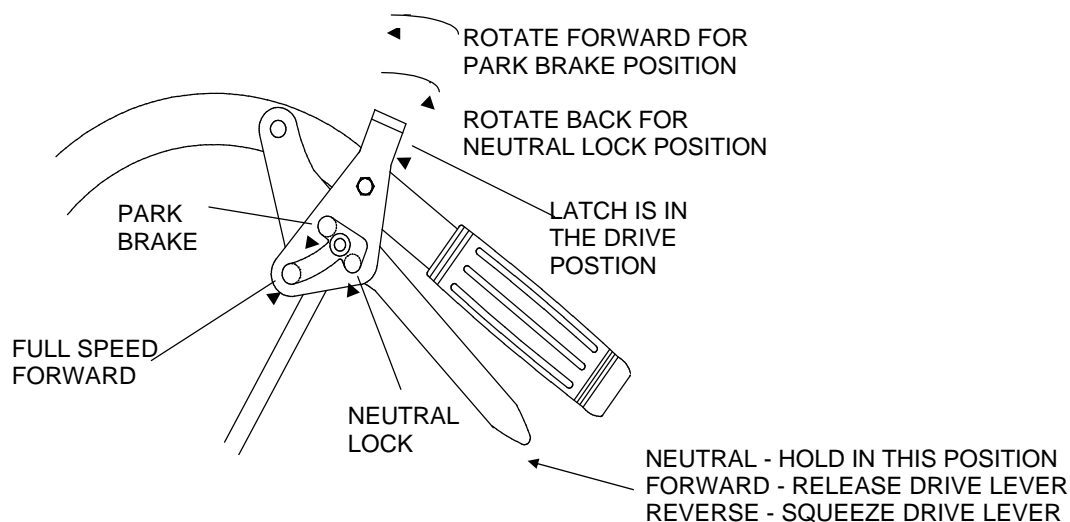
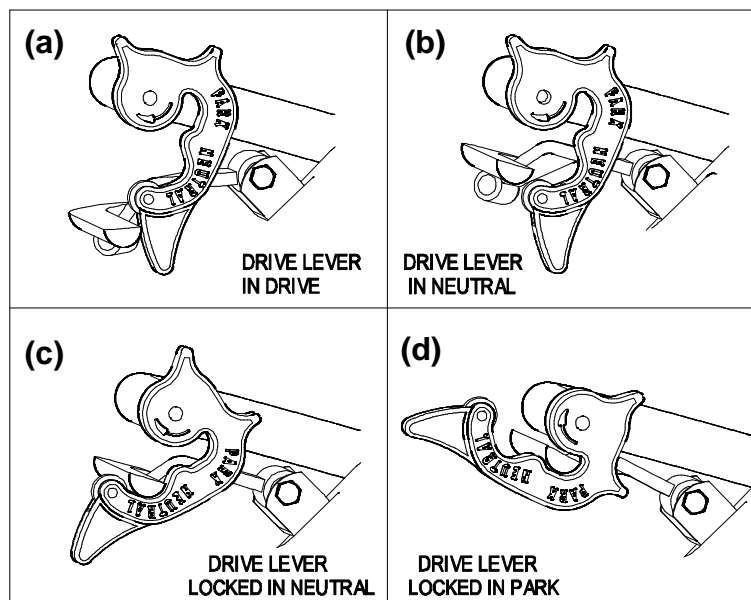

FIGURE 15
FIGURE 16
- 3.14 Adjust brakes by adjusting wingnut on the upper end of each brake rod. Tighten the wingnut until the brakes engage when the drive levers are squeezed enough to allow the neutral lock/park brake latches to be placed into the “park brake” position. See Figure 15 for Standard Pistol Grip handles and Figure 16 for ECS handles.
For Pistol Grip Handles: To lock the drive levers in “neutral”, squeeze the drive levers back to the neutral position. Place thumbs on the upper portion of the neutral lock/park brake latches and move them to the rear. Release the drive levers (See Figure 15).
To lock the levers in “park brake”, squeeze the drive levers back to the brake position. Place thumbs on the upper portion of the neutral lock/park brake latches and move them to the front. Release the drive levers (See Figure 15).
For ECS Handles: To lock the drive levers in **“neutral lock”**, squeeze the drive levers to the “neutral” position. See Figure 16 (b). Place thumbs on the inner thumb lobe of the neutral lock /park brake latches and rotate them to the “neutral” position. See Figure 16 (c). Release the drive levers.
To lock the drive levers in **“park brake”**, squeeze the drive levers farther to the “brake” position. Place thumbs on the inner thumb lobe of the neutral lock/park brake latches and rotate them to the “park” position. See Figure 16 (d). Release drive levers.
To place the drive levers in the **“drive”** position, slightly squeeze the drive levers while placing thumbs on the outer thumb lobe of the neutral lock/park brake latches (or the index finger on the front lobe) and rotate them from under the drive levers. **Slowly** and **carefully** release the drive levers. See Figure 16 (a).